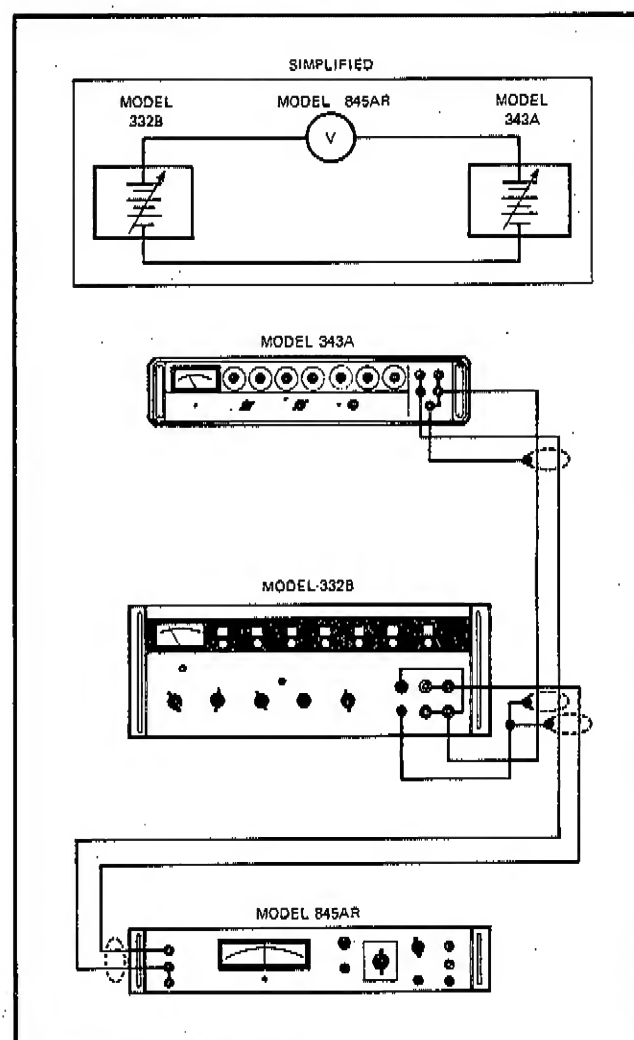

Figure 4-13. BETA STRING LINEARITY TEST SETUP
- Connect the equipment as shown in Figure 4-13.